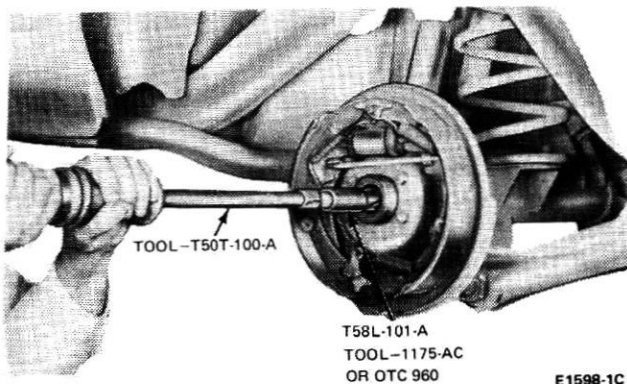

FIG. 4 Removal of Axle Seal or Bearing
9. Remove the oil seal and bearing from the housing as shown in Fig. 4.